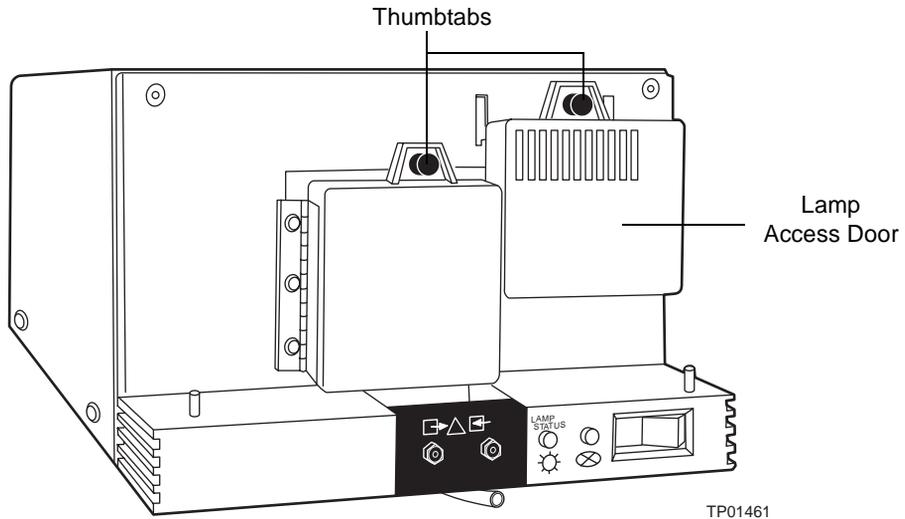

Figure 3-5 Lamp Access Door
3. Open the lamp access door by pulling the thumbtab, then pulling the door toward you (Figure 3-5).
3. Open the lamp access door by pulling the thumbtab, then pull the door toward you (see Figure 3-5).